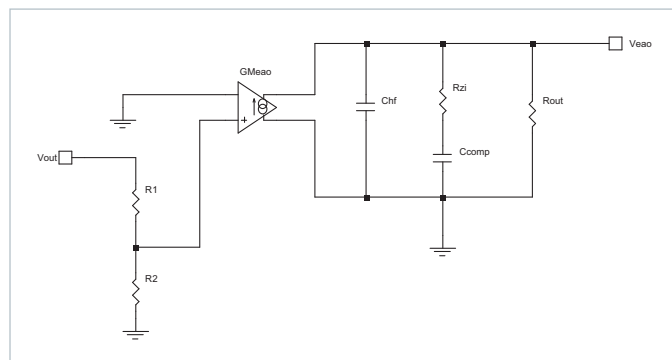

Figure 56 — PI354X Error Amplifier Model
The small signal model of the error amplifier and compensator is shown in Figure 56. The error amplifier is a trans-conductance amplifier (TCA). The transfer function is shown in Equation (5), where in this example $R1 = 2.3$ k, $R2 = 1$ k, $G_{Meao} = 5.1$ mS, $R_{OUT} = 1$ Meg, $C_{hf} = 56$ pF, $C_{comp} = 4.7$ nF and $R_{zi} = 5$ k. Here it is important to note that the external components are C_{comp} , $R1$ and $R2$. The other components are internal to each specific model. See the data tables section “Soft Start, Tracking And Error Amplifier” for details.